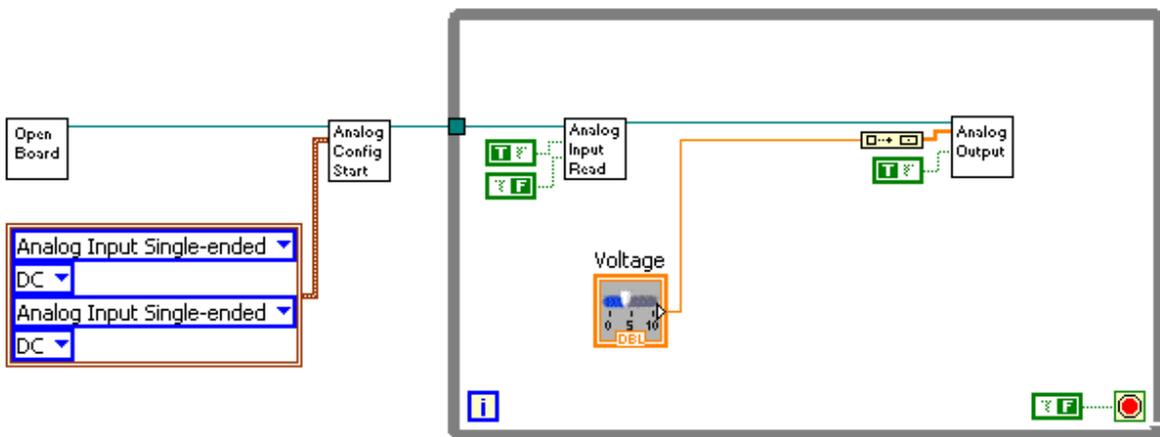

Figure 12 - Analog Input Configuration Constants
Next, right-click on the “Channel Configuration” input of the Analog Config Start block and select “Create” → “Constant.” This will create a cluster input containing the channel settings. The default values should be correct. Also right-click on the Analog Input Read block’s “Channel 1 Enable (T)” terminal and create a true constant, then right-click on the “Channel 2 Enable (T)” terminal and create a false constant (Figure 12). This will speed up execution by only returning data from channel 1.